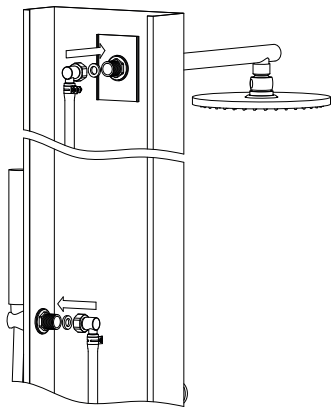

Fig.1
3. Connect water pipe to the arm outlet and to the hand-shower outlet (see fig.1).
5. Hold the shower panel. Connect the hose (n°17) to the hand-shower (n°13) and to (E).